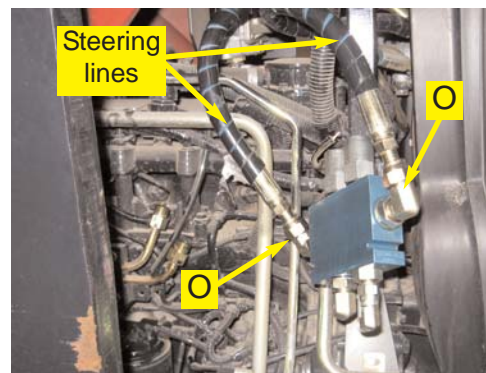

Figure 6c. Steering lines connected at counter-balance valve block.
- e. Remove the steering lines. (Figure 6c.)
- f. Connect the steering lines to the adapter fittings (O) in the V1 and V2 ports of the counter balance valve. (Figure 6c.)